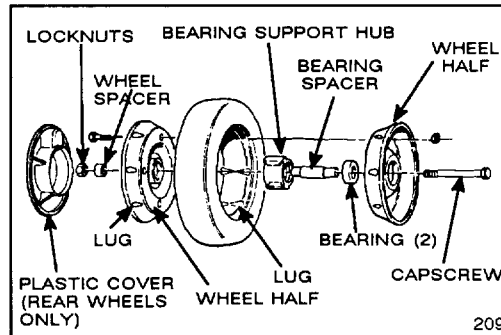

Figure 20
SERVICING WHEELS (Fig. 20)
1. Position tire onto (1) wheel half, aligning lugs on each (Fig. 20).
4. Using (2) 1/4-20 x 1.50" lg. fully threaded screws or bolts and non-locking nuts, loosely secure wheel halves together. Mount screws or bolts in opposing holes.